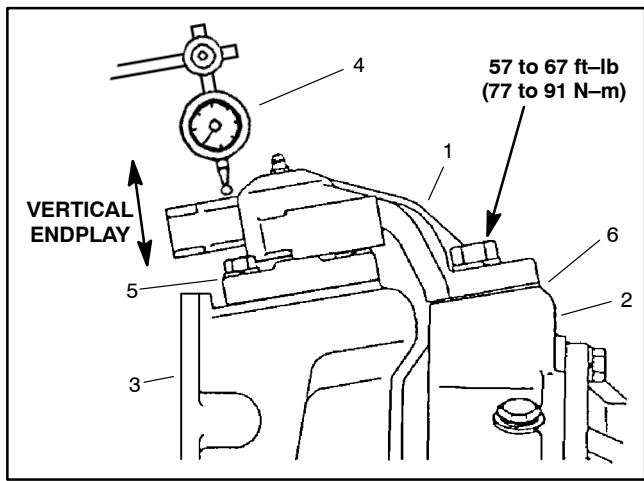

Figure 8
C. Use dial indicator to measure vertical endplay of axle case (Fig. 8).